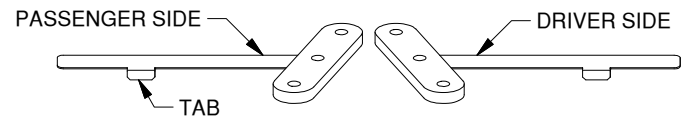
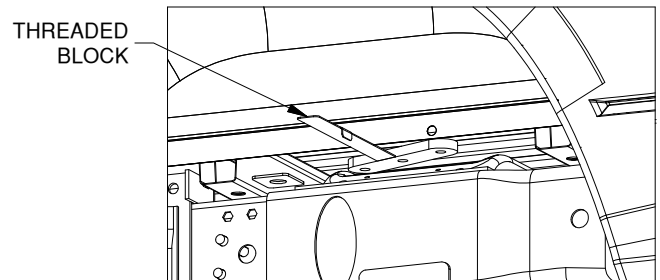
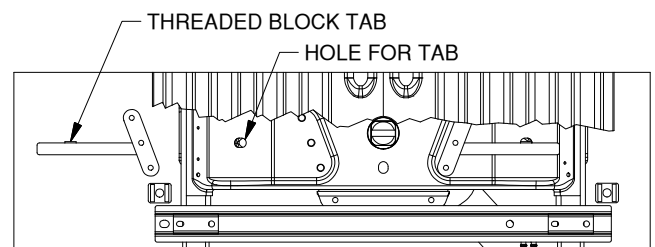

Figure B2: Threaded Blocks
Figure B3: Looking at passenger side wheel well.
Figure B4: Cutaway view looking down into bed.
2. **Install threaded blocks.** Identify the driver and passenger side threaded blocks by comparing the parts to figure B2. Place the threaded blocks between the frame cross member and the bed on their respective sides, see figure B3. Use the handle welded to the blocks to guide them into place. Once the blocks are positioned, lower the handle so that the tab on the bottom side of the handle fits in the hole as shown in figure B4. This will help guide the blocks into position while the center section is installed. Make sure that the three threaded holes in the blocks are directly over the holes in the frame.